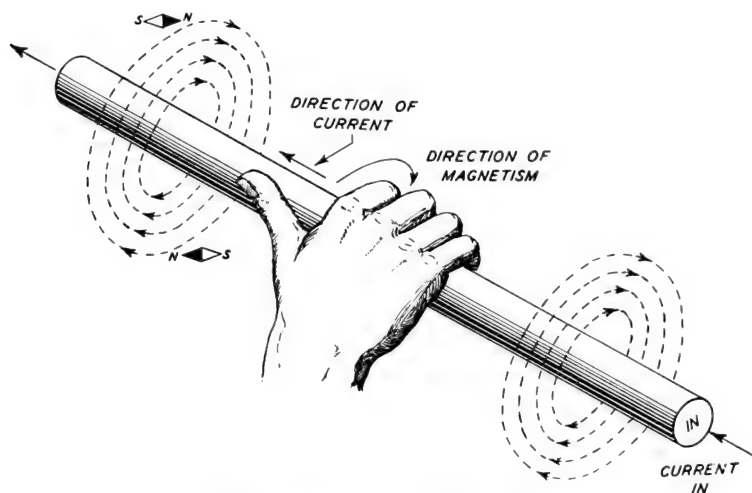

Fig. 6. Application of the Right-Hand Rule
6. Why is the method shown in Fig. 6 on page 210 the best when the current is small?
In the experiment which you have just performed, you had the direction of the current and have found the direction of the lines of force with the aid of the compass. You see **that** the result of the experiment conforms to the rule. Fig. 6 illustrates this rule, with the right hand **applied** to a conductor.